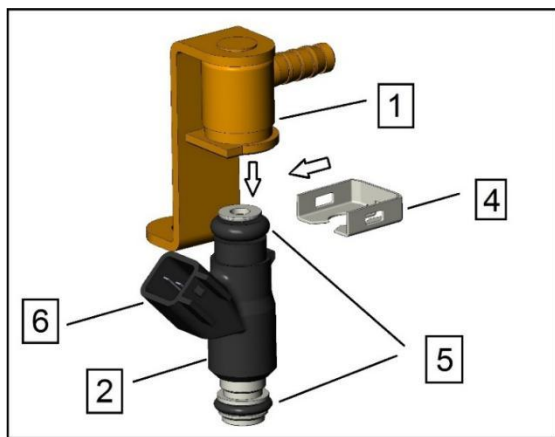

Fig. 23
4. Disconnect the nozzle connector of the circuit wire (point 6, Figure 23).
6. Insert a new nozzle into the nozzle cover. Make sure that the sealing ring of the nozzle (point 5, Figure 23) is new and not damaged.